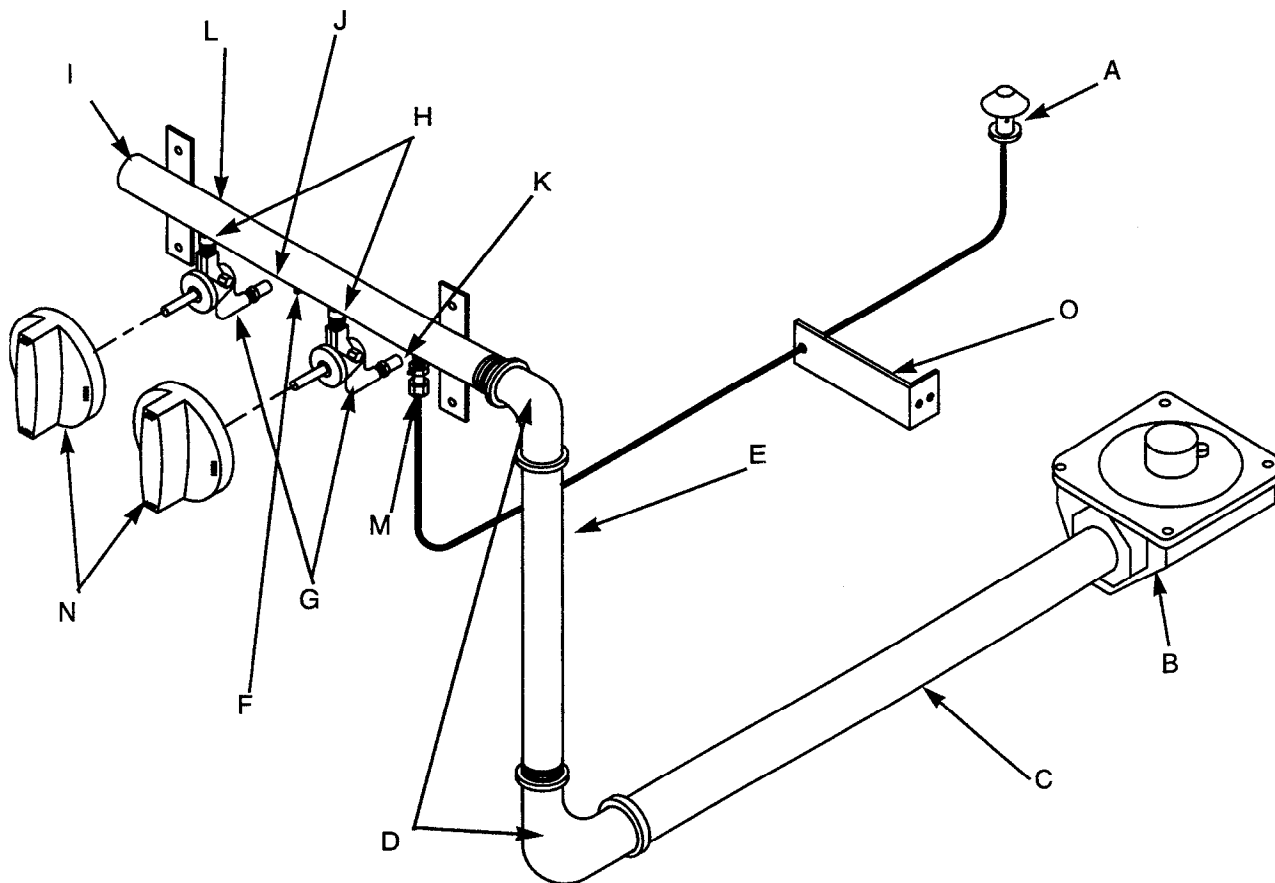

FIGURE 4
* Includes all items in figure 4, except items A, B, N, O